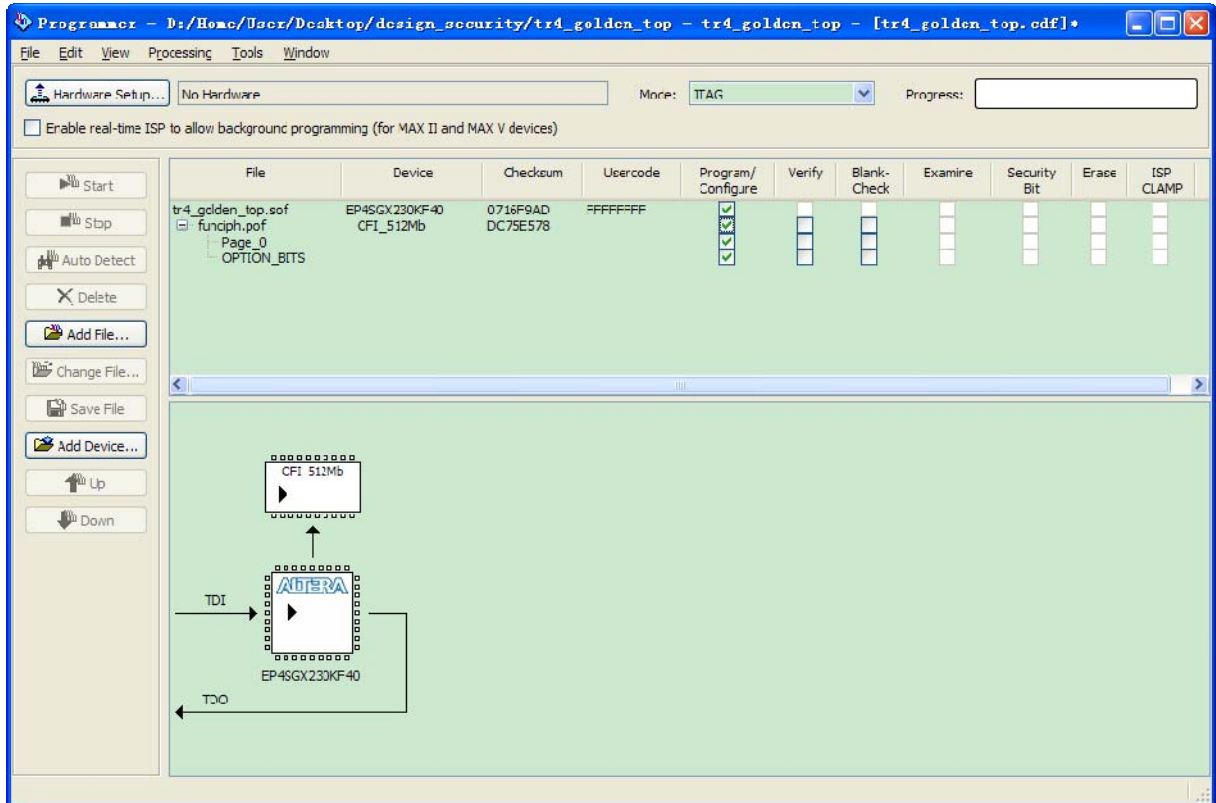

Figure 3-20 Quartus II Programmer Showing PFL and POF of Flash Device
11. Under **Program/Configure** column, turn on all check box, as shown in Figure 3-20